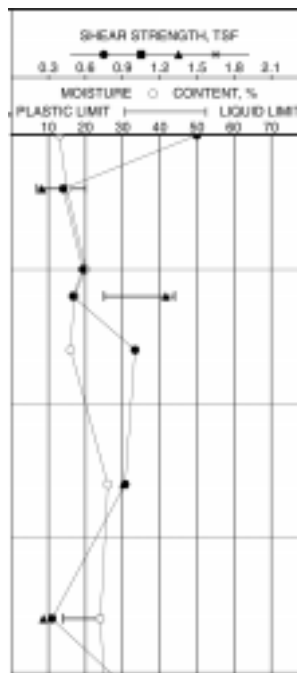

Figure 4.46 -- Graph Column Example
You can graph one or more items of data in any column of a LD4 subsurface report's table. The *vertical* scale on an LD4 graph is always "Depth" just like any other item on the subsurface table. Each item being graphed can have its own *horizontal* scale, or two or more items can share the same horizontal scale. Figure 4.46 shows a column where four items are being graphed: notice the different graphing options. Also note that the "Penetration", "Water Content" and "Plastic Limit"/"Liquid Limit" graphs share a common horizontal scale while the "Shear Test" graph uses a different scale.
- Note that the order in which graphs are added to a column is important. If three graphs are added to the same table column, the key (which identifies the marker used to graph the data, as well as the horizontal graph scale) of the graph added last will appear on top of the graph keys listed in the column's title block. (For example, Figure 4.46 was created by first adding a graph of plastic and liquid limit to a table column, then adding a graph of moisture contents and a graph of shear test results to the same column.) So, when creating a table column containing graphs of multiple results (Atterberg limits, water contents, etc.) add the graphs in bottom-to-top order from how you want their corresponding keys to appear in the column title block.
5. In the title block at the head of the graph column it is customary to place a key indicating what marker was used for the item to be graphed. (In Figure 4.46, the keys say “SHEAR STRENGTH, TSF”, “MOISTURE CONTENT, %” and “PLASTIC LIMIT” -- “LIQUID LIMIT”.) LD4 allows you to place some text both to the left and right of the marker in the title -- in the following graph key, **PLASTIC LIMIT** was entered into the **Title on the left of the marker** field and **LIQUID LIMIT** was entered into the **Title on the right of the marker** field:
- Note: if you've already added a graph to the column, LD4 will suggest using the same left and right-hand values as the previous graph. If you enter different values LD4 will plot a new graph scale above the previous graph's key at the top of the column. (In Figure 4.46, the shear test values graph was added with 2.4 as the right-hand graph values, while the previous graphs in the column -- the moisture and Atterberg limits graphs -- both used 80 as the right-hand value.)